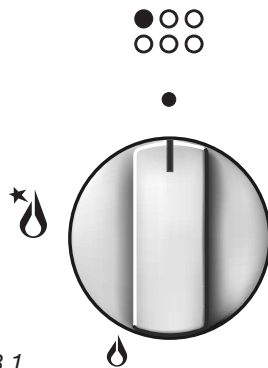
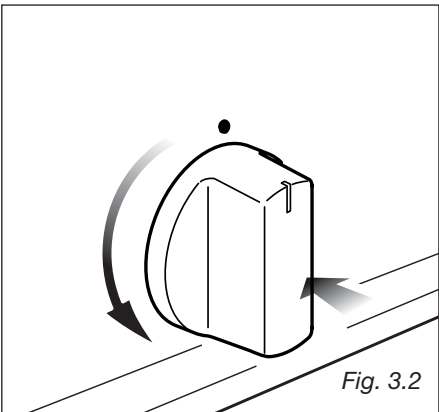

Fig. 3.1
Fig. 3.2
- 1) Lightly press and turn the knob anti-clockwise, and position the knob indicator to the symbol  printed on the control panel (fig. 3.2).
- 1) Press in the corresponding knob and turn counter-clockwise (fig. 3.2) to the full flame position marked by the  symbol (fig. 3.1) and hold the knob in until the flame has been lit. In the case of a mains failure light the burner with a match or lighted taper.